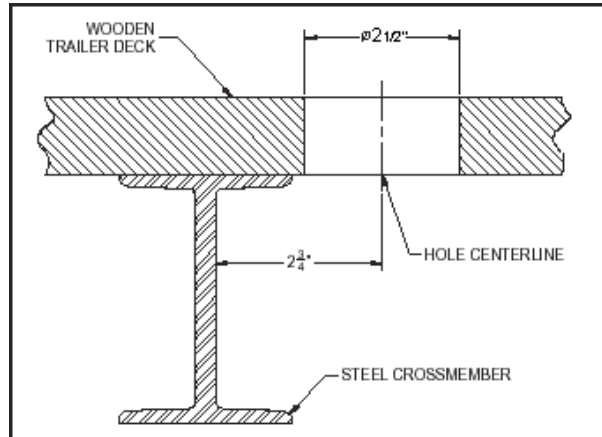

Figure 1
- 2 Measure $2\frac{3}{4}$ " from the web of the trailer cross member to establish the centerline for the hole in the trailer deck (see Figure 1).